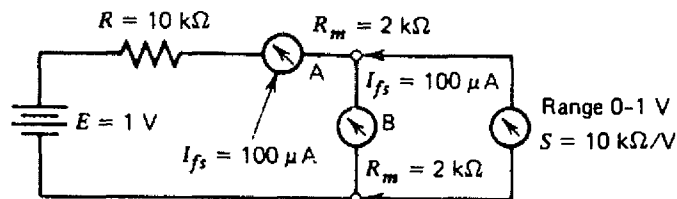

FIGURE 2-31 Circuit for Problem 2-6.
- 2-6 Find the currents through meters A and B in the circuit of Fig. 2-31.